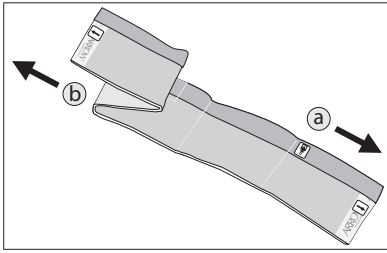

Figure 13
- Unfold width (refer to Figure 13).